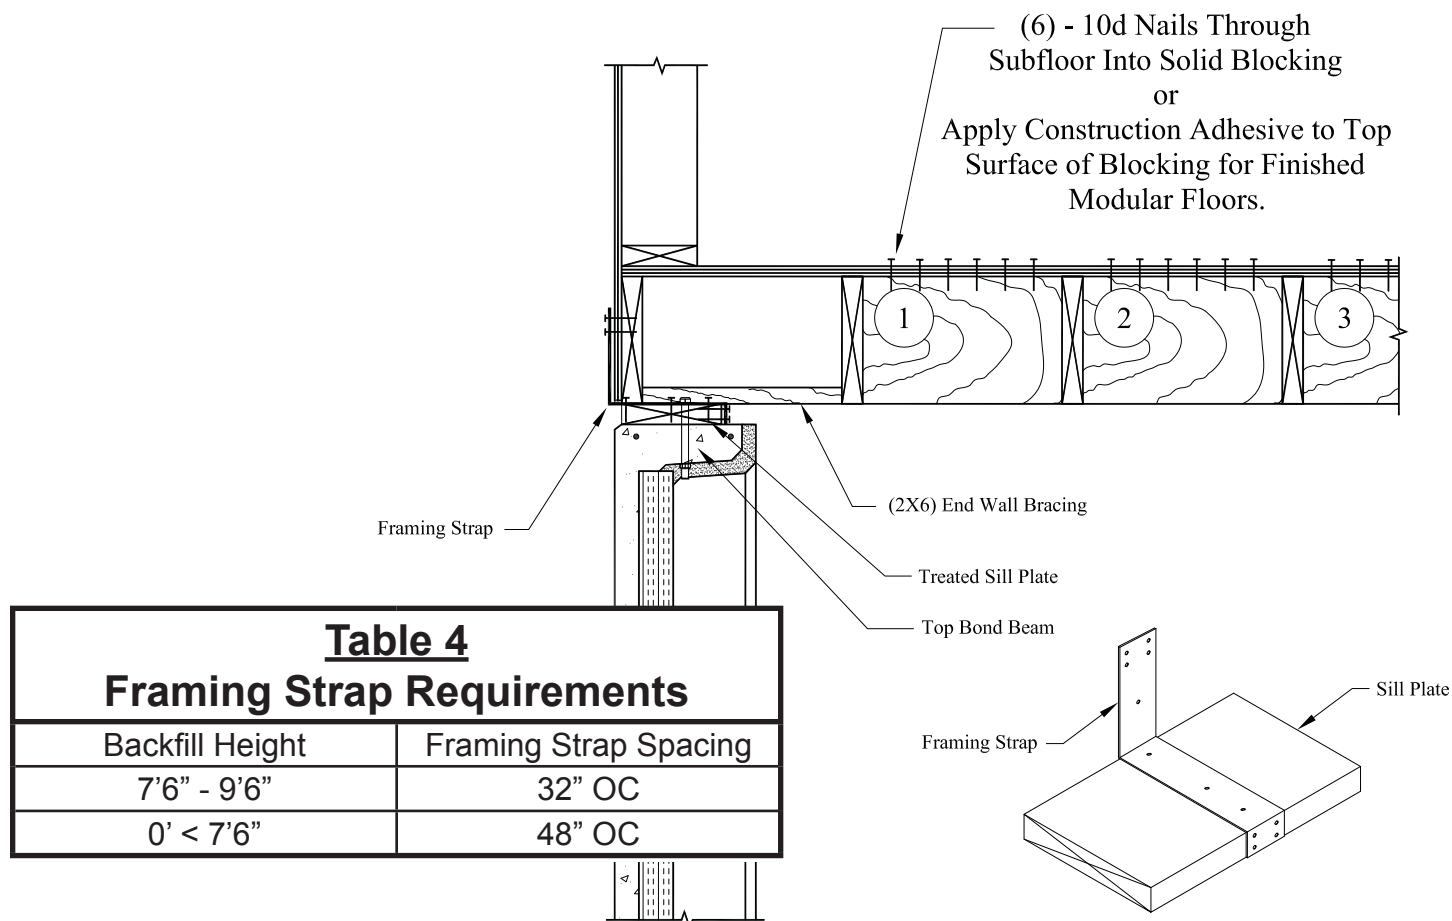

Figure 27
- Add Solid Blocking per Table 3 on page 27, as shown below in Figure 27.